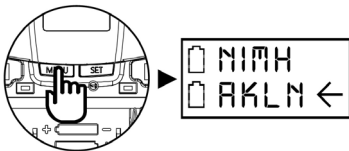

Figure 12
1. Use MENU button to go to the BATTERY TYPE page (Fig 12).